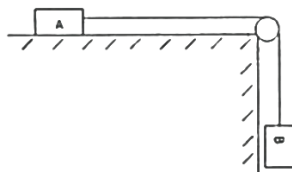

Figure.7
b) Two blocks of weights A and B are connected by a flexible but inextensible cord and supported as shown in figure 7. If the coefficient of friction between the block P and the horizontal surface is μ and all other friction is negligible, find (i) the acceleration of the system and (ii) the tensile force S in the cord. The following numerical data are given: $A = 54 \text{ N}$; $B = 25 \text{ N}$; $\mu = 1/3$. [5+5]